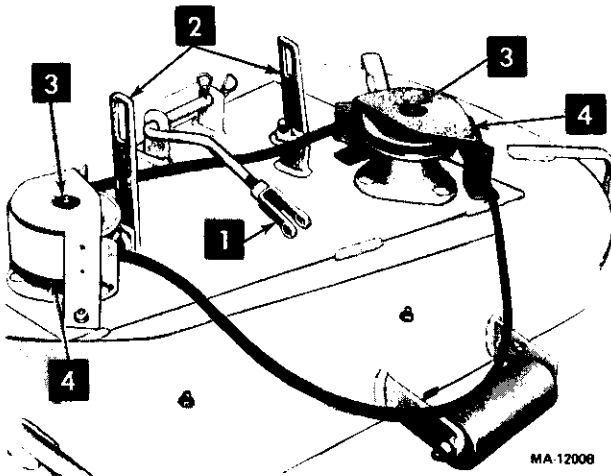

FIGURE 21.
3. Disconnect the mower linkage rod from the front foot rest support bracket by removing the quick attachable pin and rod pin through the clevis. See figure 21.